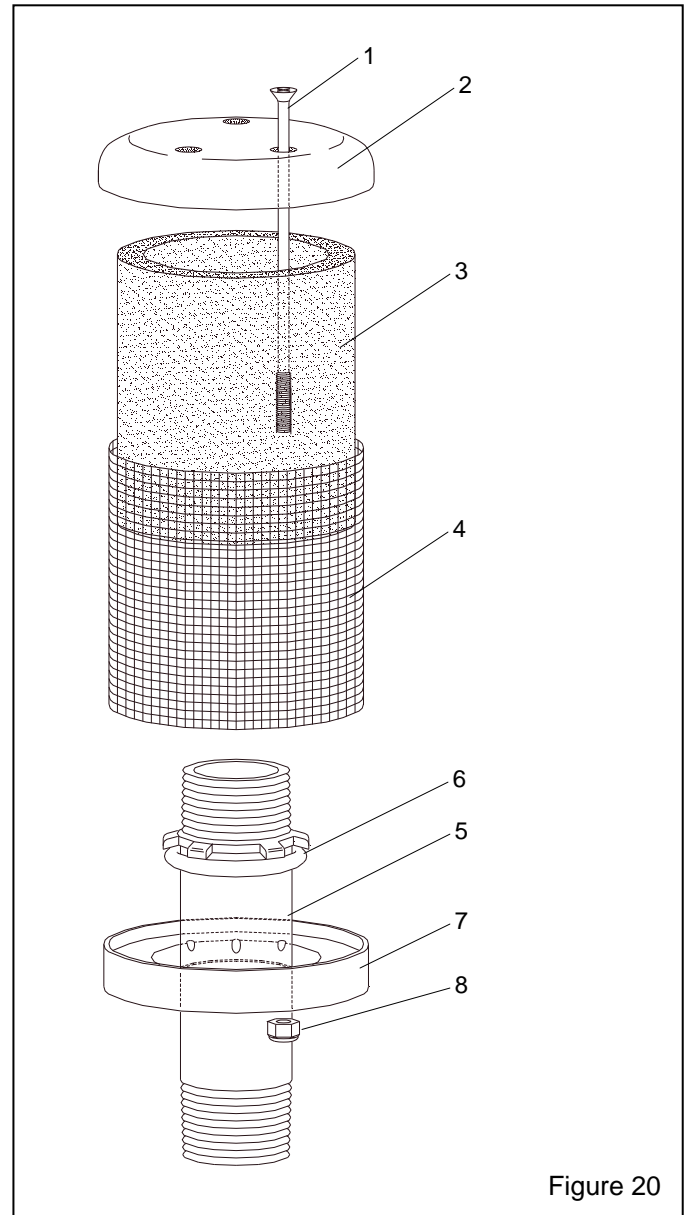

Figure 20
9.5 Exhaust Muffler, Figure 20